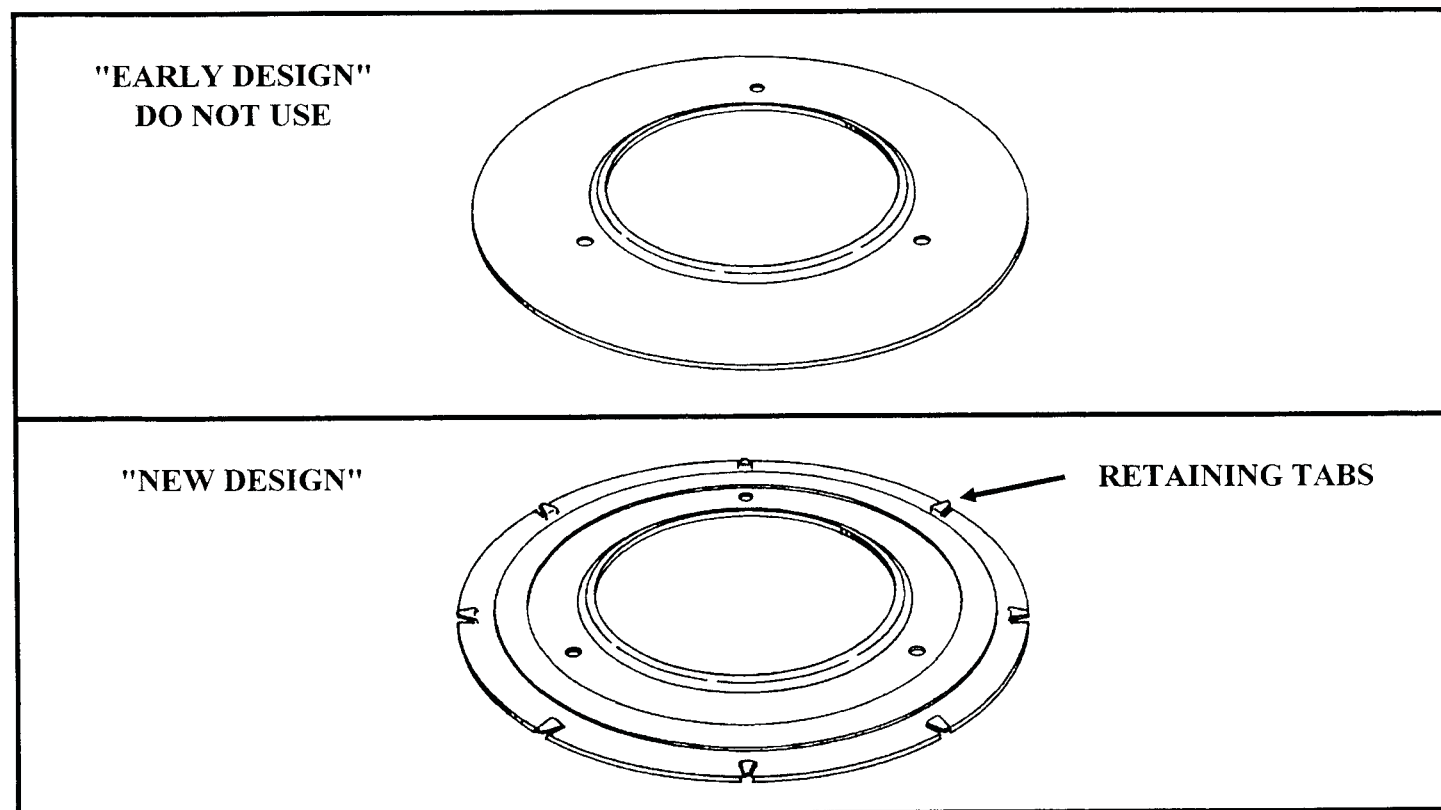

Figure 27
- (1) OVERDRIVE SPRAG RETAINING WASHER - The new design retaining washer increased in overall diameter and has retaining tabs stamped into it to prevent the washer from rotating in the overdrive ring gear. (See Figure 27).